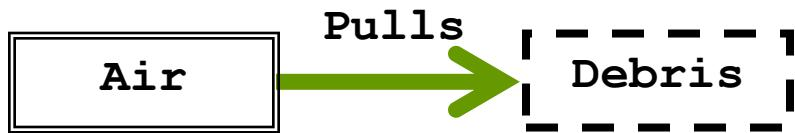

Figure 6. Substance-Field Function Diagram
A technological system consists of a set of objects or subsystems that perform a set of specific functions on a product. Generally speaking, a technological system consists of a working tool, which provides the primary function, an engine that provides energy, a transmission for carrying the energy, control for managing energy flow, the casing that maintains its structure, and provides safety and aesthetics, and finally the super-system, i.e. the larger system the itself is part of. The vacuum cleaner is one example of a technological system whose primary function, "cleaning," is performed by a tool (double lined box), "air," that exerts a force, "pull," on a product (dotted lined box), "debris." This air-pulls-debris example represents the most basic unit or model of a technological system and is referred to in TRIZ as a Substance-Field, S-F unit (See Figure 6).
5. Next scale all fields for their effectiveness. Please refer to the arrow conventions in Figure 6.